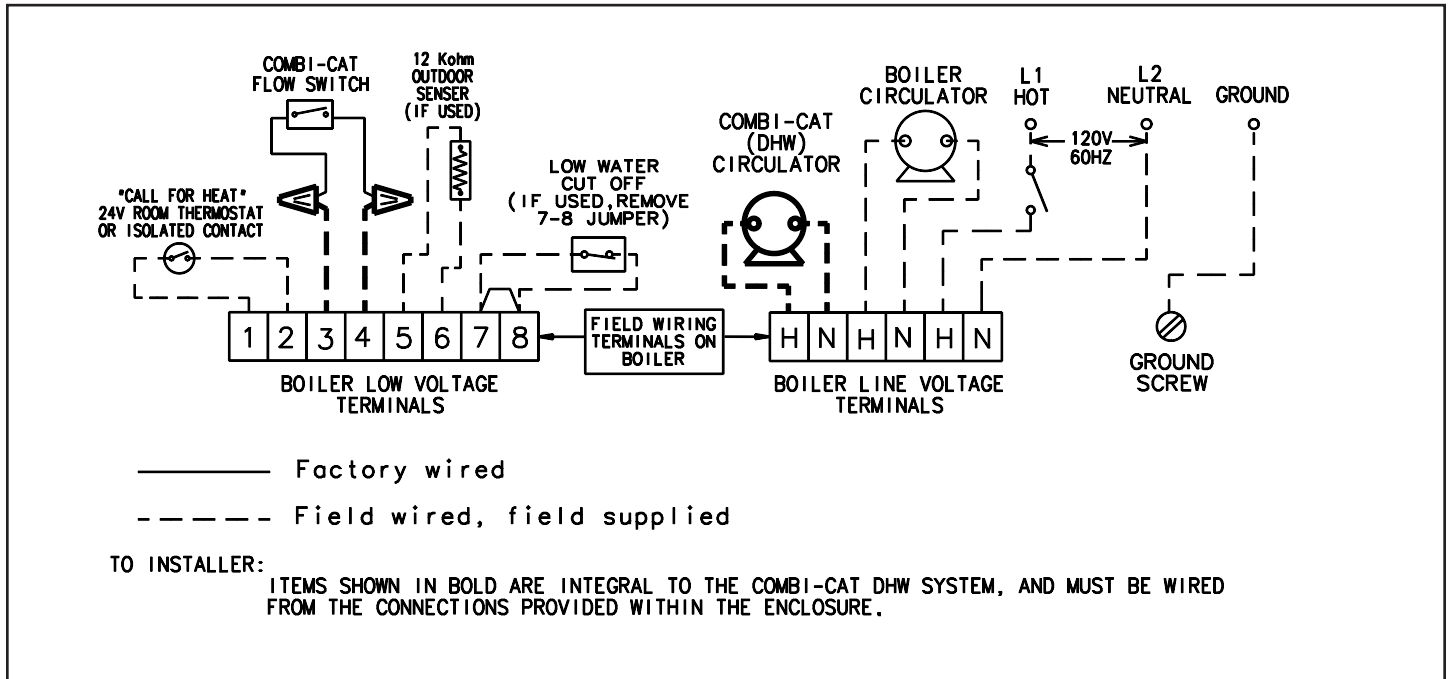

Figure 4. Wiring Combi-Cat DHW system to the Bobcat boiler.
1. Make all wiring connections to the DHW system as shown in Figure 4.